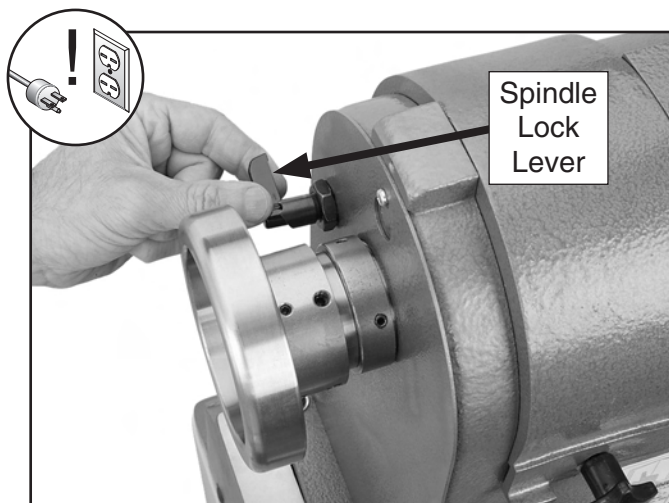

Figure 19. Using the spindle lock lever.
2. Pull the spindle lock lever out, then rotate it from the twelve o'clock unlocked position to the six o'clock locked position (see **Figure 19**).